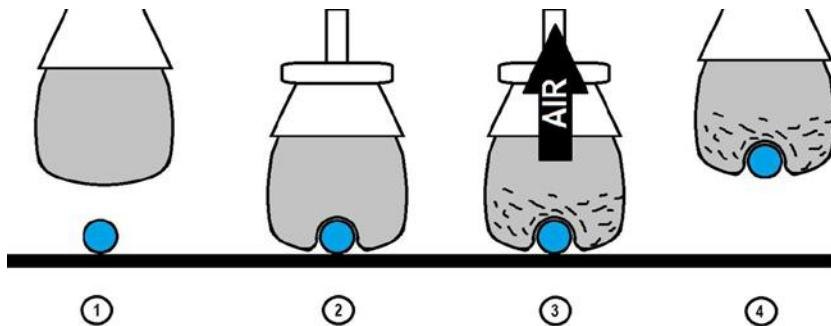

Figure 11-48. How the gripper with ground coffee works
Figure 11-48 shows how the process works. First the gripper approaches the object (1) and then forms over the object (2). The air pump then removes the air, forcing the ground coffee to hold the object (3). finally, the gripper holds the object (4).